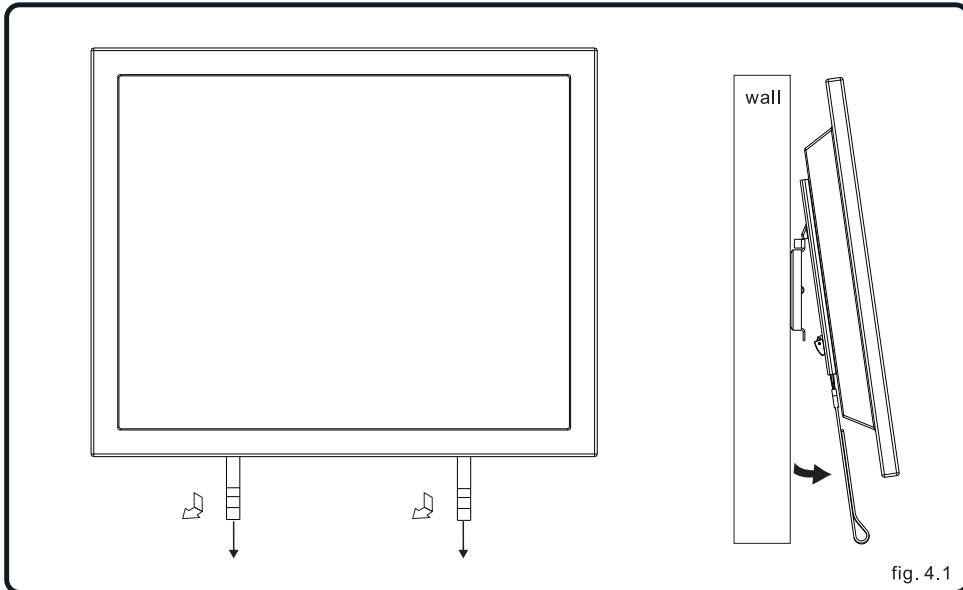

fig. 4.1
- 4** To remove screen from mount, unfold the velcro and pull down the two ropes at the same time to free the bracket, then swing screen away from mount and lift screen off, as shown in fig.4.1.